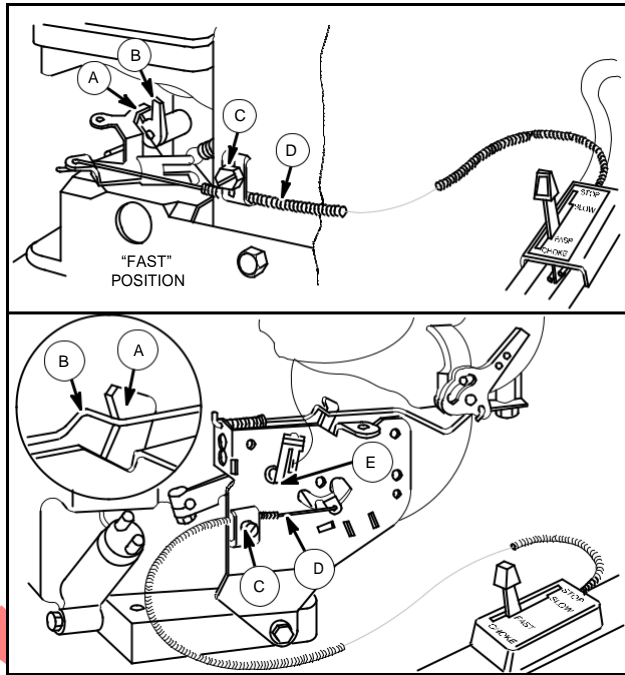
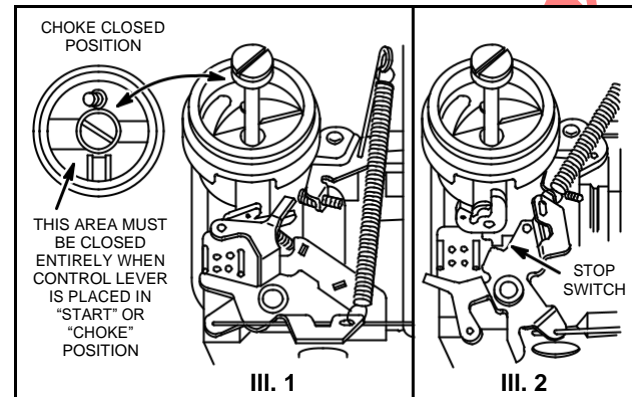

Fig. 355 - CHOKE-A-MATIC CONTROL, TYPICAL
Fig. 356 - CHOKE AND STOP POSITION
Fig. 355 illustrates typical remote control installations used with Choke-A-Matic carburetors.
1. To adjust, move remote control lever to "FAST" position. Choke actuating lever "A" should just contact choke shaft "B" or link "B" as shown in Fig. 355.
4. Choke valve should be completely closed, Fig. 356, III. 1.
5. Then move remote control lever to "STOP" position. Control must contact stop switch blade, Fig. 356, III. 2 or "E," Fig. 355.